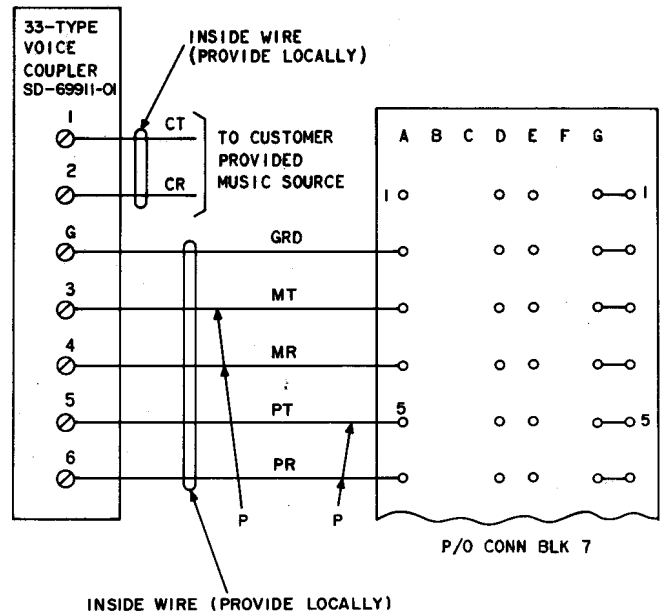

Fig. 30—Connections for 33A Voice Coupler
(2) Mount voice coupler externally to the KSU (wherever customer desires).
(3) Connect voice coupler to 580-type KSU as shown in Fig. 30.
(4) Have customer connect voice coupler to the music source as shown in Fig. 30.
(5) Replace cover on voice coupler.